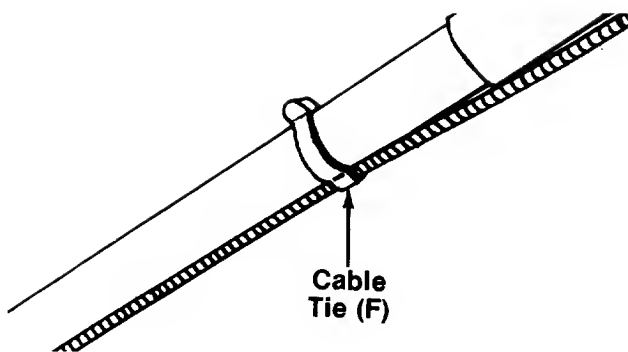

FIGURE 9.
17. Secure throttle control cable and blade brake/clutch cable to upper and lower handles with cable ties (F) provided. See figure 9.